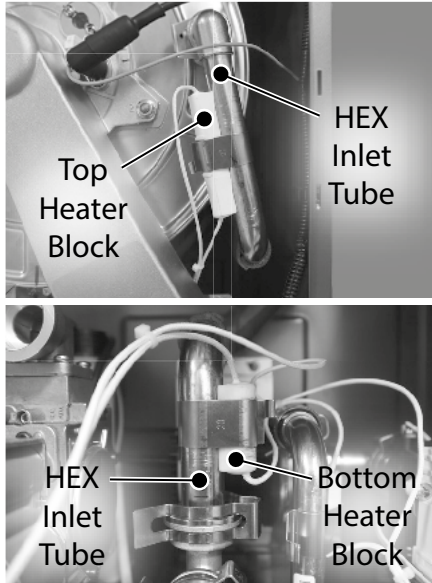

Figure 9 - Remove heater blocks from HEX inlet tube
- 22** Locate the two heater blocks attached to the top and bottom of HEX inlet tube as shown in Figure 9. Remove brackets (size 20) securing